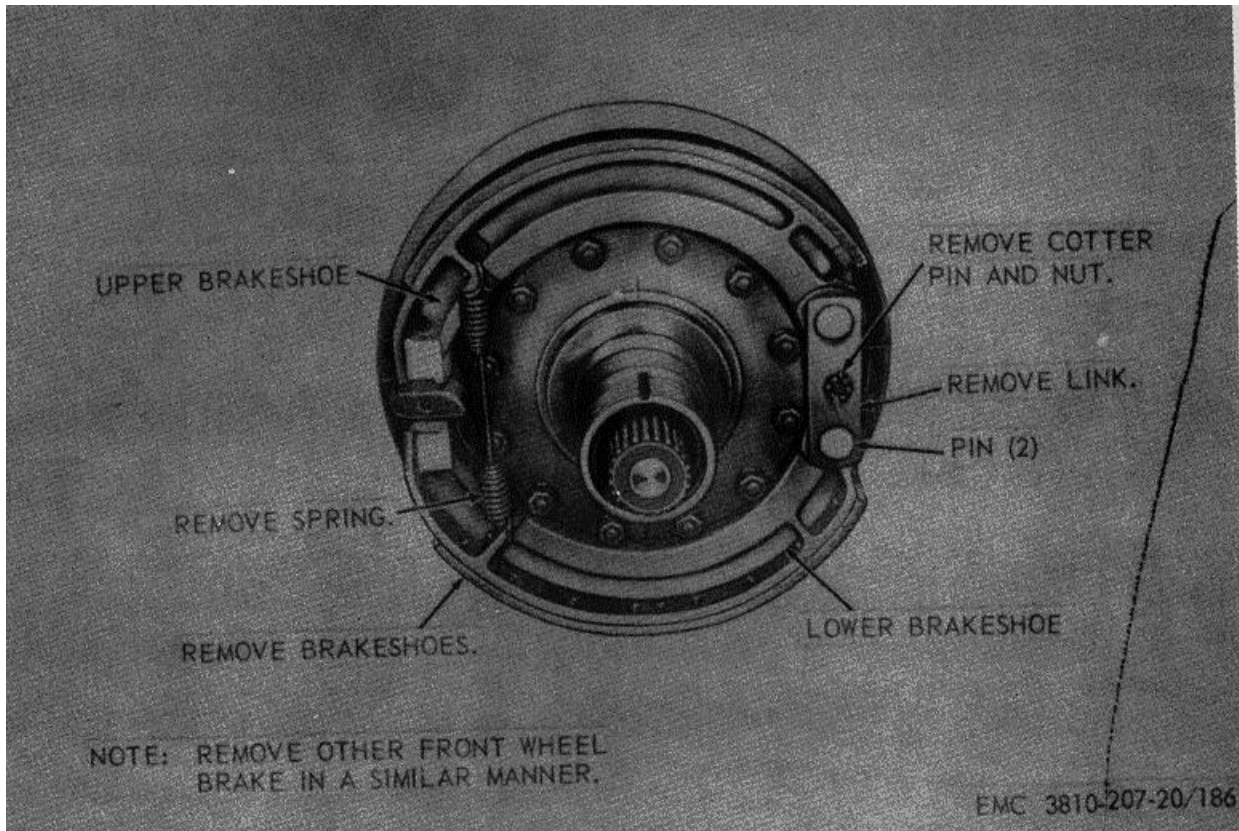
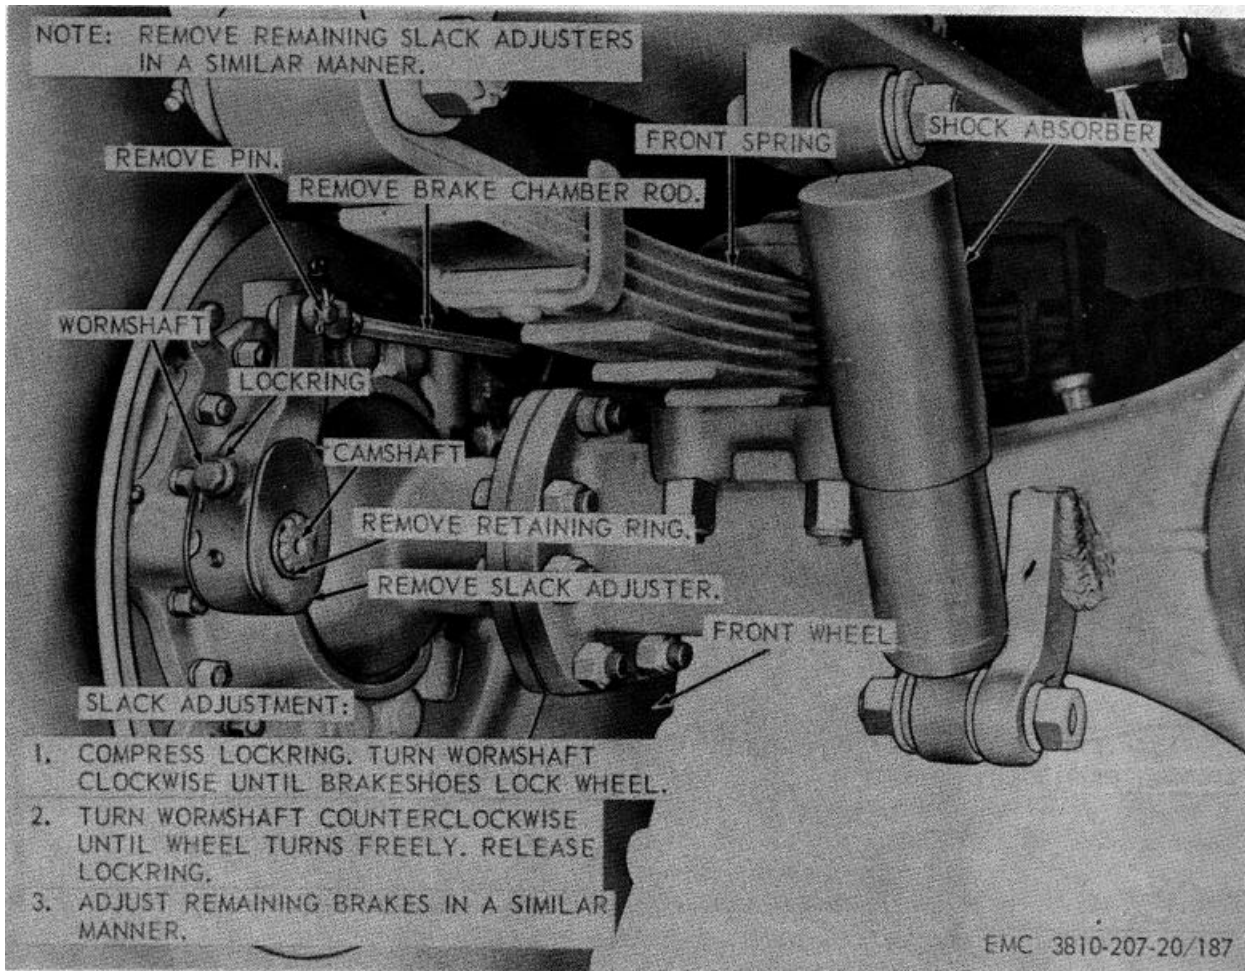

Figure 186. Front brakeshoes, removal and installation.
Figure 187. Slack adjuster removal, installation, and adjustment.
- (1) Remove the wheel and drum from brakeshoe assembly (par. 283).
- (2) Remove the front brakeshoes as instructed on figure 186.
b. Slack Adjuster Removal. Remove the slack adjuster as instructed on figure 187.
- (1) Clean all parts with an approved cleaning solvent except the brake lining, and dry thoroughly.
- (2) Inspect the brake lining for excessive wear and glazing. Remove glazing by brushing with a wire brush.
- (1) Install the brakeshoes as illustrated on figure 186.
- (2) Install the drum and wheel (par. 283).
- (3) Install the slack adjusters as illustrated on figure 187.
e. Brake Adjustment. Adjust the brakes as instructed on figure 187.